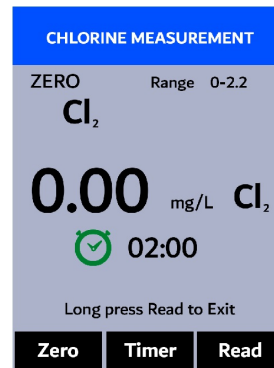

Figure 8.
5. Press **Zero** (**<**). **ZERO** will then appear on the top-left corner of the display (Figure 8).